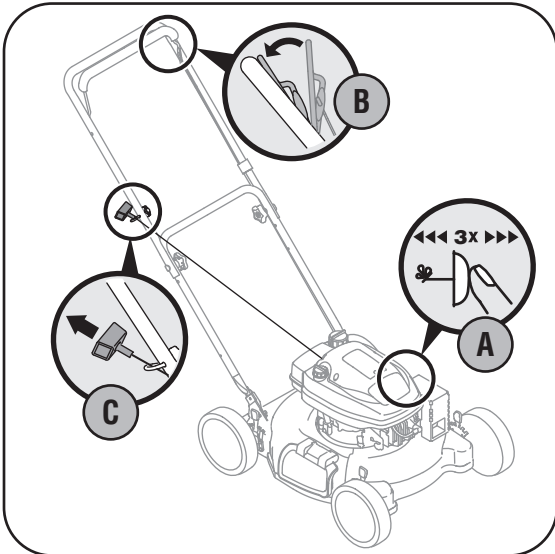

Figure 2
1. Push primer three times. Wait about two seconds between each push. See Figure 2. In temperature around 55° F or below, prime five times. Do not prime to restart a warm engine.
2. Standing behind the mower, squeeze the blade control handle against upper handle. See Figure 2.
3. Holding these two handles together firmly, grasp recoil starter handle and pull rope out with a rapid, continuous, full arm stroke. See Figure 2. Keeping a firm grip on the starter handle, let the rope rewind slowly. Repeat until engine cranks. Let the rope rewind each time slowly.